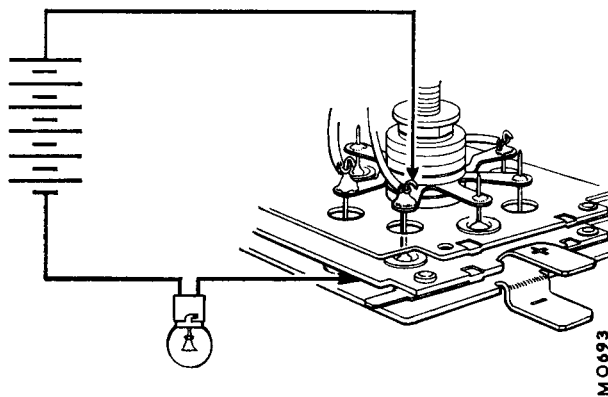

Fig. Nb.18
- 34. Connect a 12-volt battery and a 1.5-watt test lamp in turn to each of the nine diode pins and its corresponding heatsink on the rectifier pack, then reverse the connections. The lamp should light with the current flowing in one direction only. If the lamp lights in both directions or fails to light in either, the rectifier pack must be renewed (see Fig. Nb.18).
**IMPORTANT.**— See notes on soldering the diodes given in item 22.